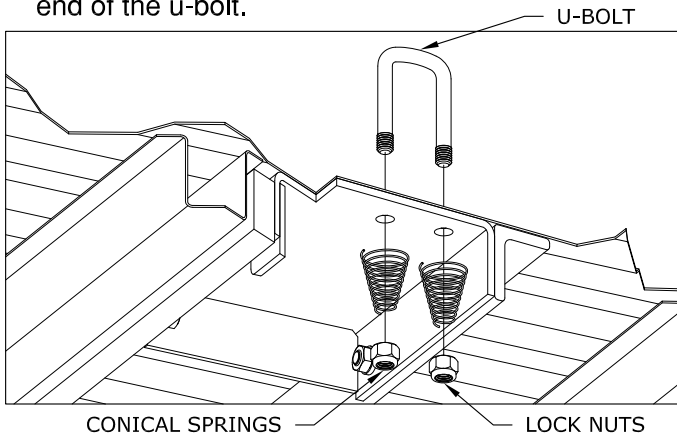

FIGURE F3: Cut away view from under the bed.
- 3. Add springs.** Place a conical spring over each leg of the u-bolts and secure with a $\frac{1}{2}$ " lock nut, see figure F3. Tighten the lock nut until the nut is flush with the end of the u-bolt.